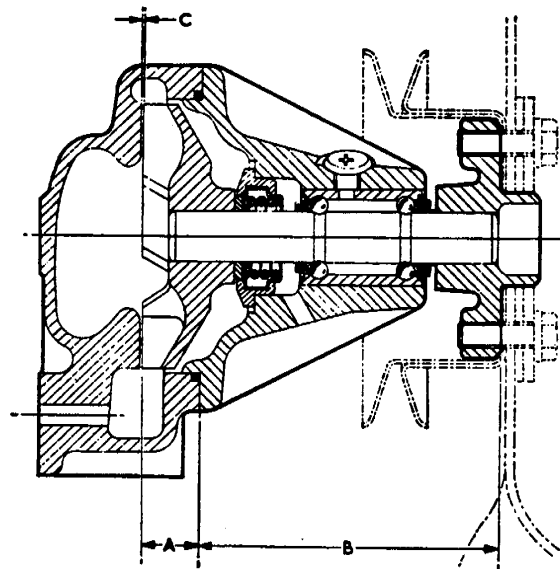

Fig. 4
- b. Assemble the pulley hub and the impeller to the dimensions given in Figure 4